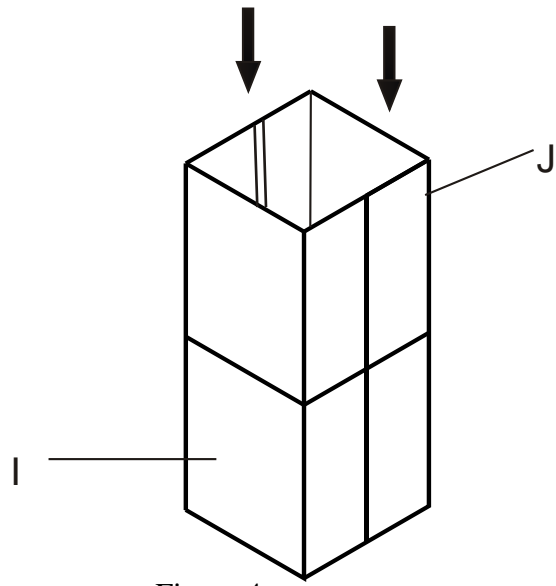

Figure 4
Lighting (Figure 4)
- 4- Pass external chimney (J) over internal chimney (I) (Abb.4).